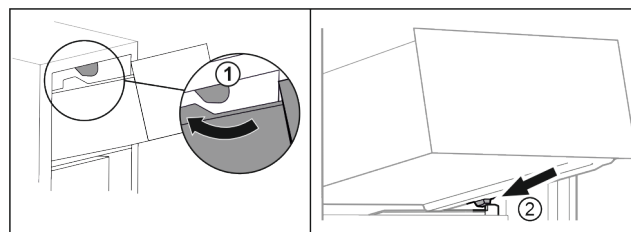

Fig. 16
- ▶ Guide the drawer around the upper stoppers Fig. 16 (1).
- ▶ Place the drawer on the molded ribs behind the lower stoppers with the drawer tilted up at the front Fig. 16 (2).